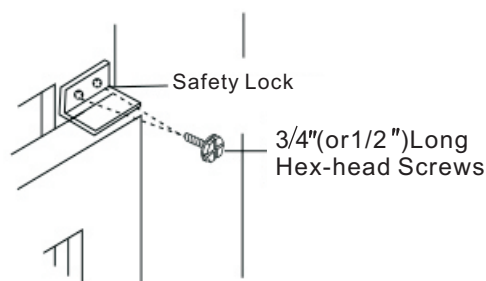

Fig.19
2. Attach right angle safety lock (Fig.19).